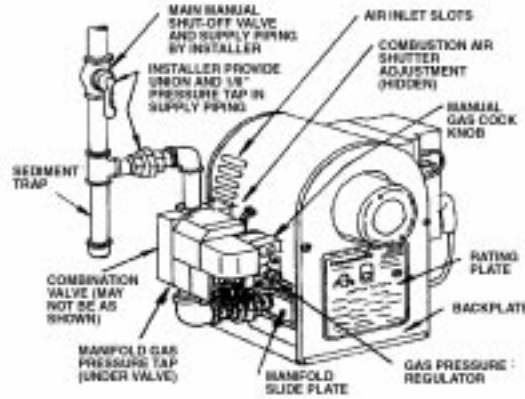

Figure 6: Piping Connections
- Provide a sediment trap, union and $\frac{1}{8}$ " pressure tap in piping close to burner as shown in Figure 6.
- If the burner piping must be rearranged because of space limitations, be sure to carry out the general arrangement shown in Figure 6. Install the Combination Valve in any position except upside down.
⚠ CAUTION: The available gas pressure should be within the limits shown in the SPECIFICATIONS section. Excessive pressure will damage Combination Valve and Regulator. If the supply pressure exceeds the 14.0" W.C. maximum, a suitable intermediate main regulator must be installed ahead of the Main Manual Shut-Off Valve shown in Figure 6.
WARNING: When reinstalling the curved manifold pipe, make sure the manifold slide plate is positioned in its holder and that the main spud is inserted into the end of the nozzle, see Figures 6 and 7. Reconnect union and replace back-plate.
- ⚠ WARNING:** When reassembling burner, make sure that the manifold slide plate is positioned in its holder and that the main gas spud is inserted into the end of nozzle, see Figures 6 and 7.